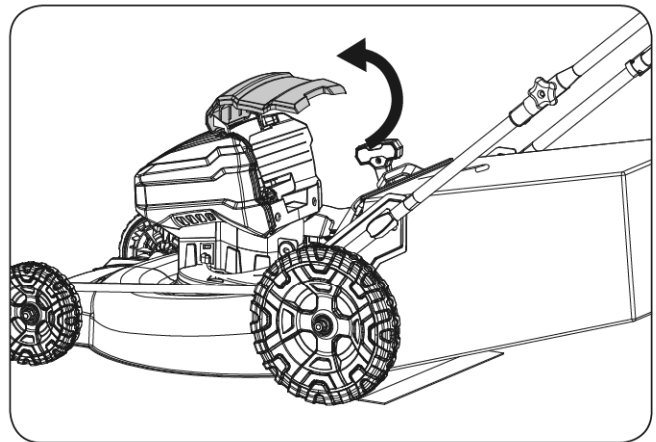

Figure 5
1. Lift and hold up the battery door. (See *Figure 5*)